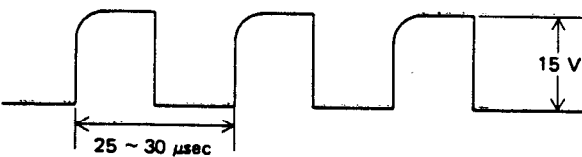

Fig. 7
- 2) Adjust VR1 to obtain maximum clock cycle of 30μsec. See fig. 7.